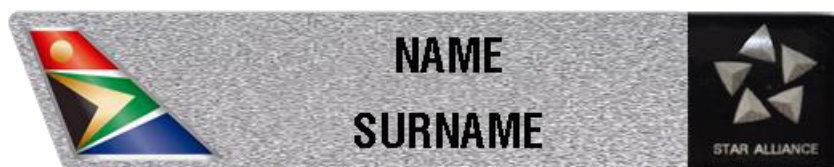

Figure 1 – Significant surface: Ground and Cabin Crew
- ♦ shape to comply with the image as given in figure 1
- ♦ to include the registered “STAR ALLIANCE” logo to the far right of each badge (see figure 1 and figure 7)